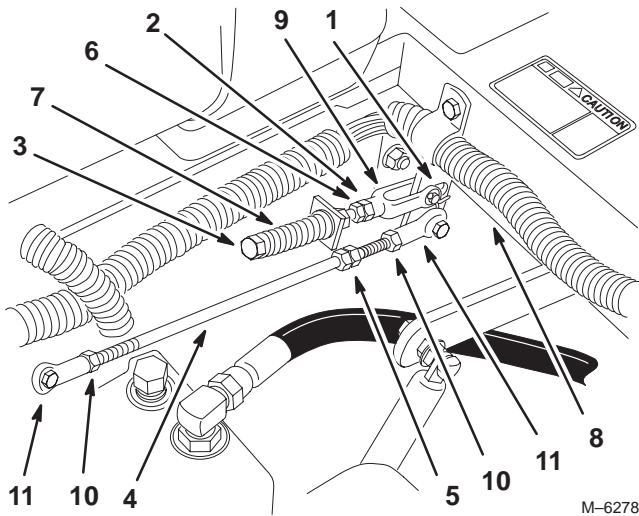

Figure 53
3. Move lever to the neutral position but **not locked** (Fig. 53).
4. Pull lever back until the clevis pin (on arm below pivot shaft) contacts the end of the slot (just beginning to put pressure on the spring) (Fig. 53).
6. If adjustment is needed, loosen the nut and jam nut against the yoke (Fig. 53).
8. Tighten the nut and jam nut (Fig. 53).
1. Loosen the locknuts at the ball joints on pump control rod (Fig. 53).
3. Adjust pump rod length by rotating double nuts on rod, in the appropriate direction, until wheel is still or slightly creeps in reverse (Fig. 53).
6. Tighten the locknuts at the ball joints (Fig. 53).